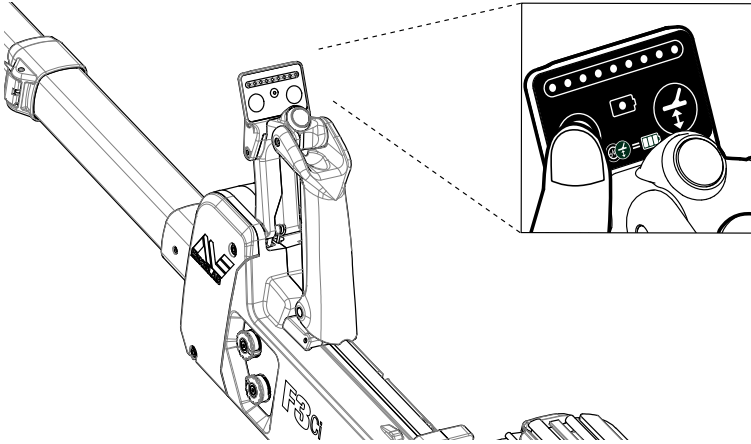

Figure 17: Noise Cancel
- a. Holding the coil stationary and at least 600 mm (24 ins) above the ground **press and immediately release** the Noise Cancel button (see Figure 17).